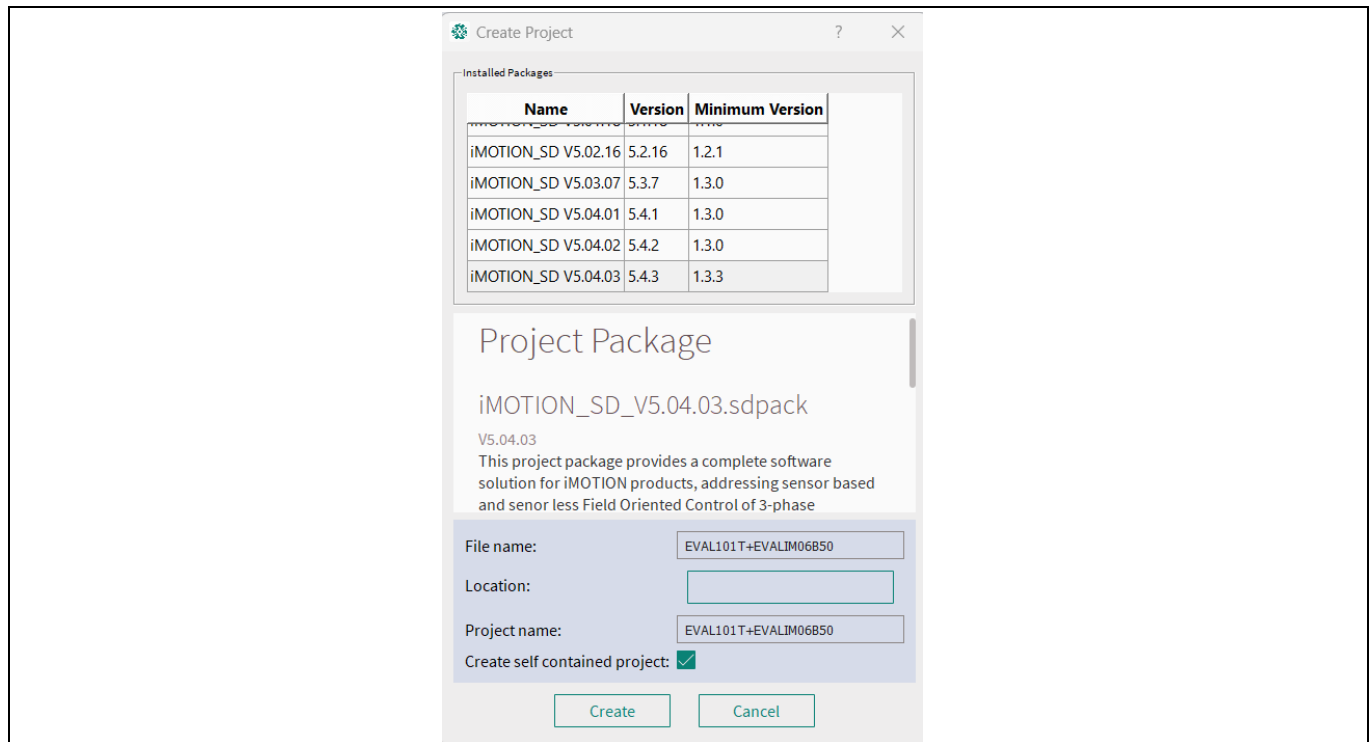

Figure 6 Create iMOTION™ Solution Designer project
4. Open iMOTION™ Solution Designer as shown in Figure 3, crease new project by “New project -> Create New Project” as shown in Figure 6.